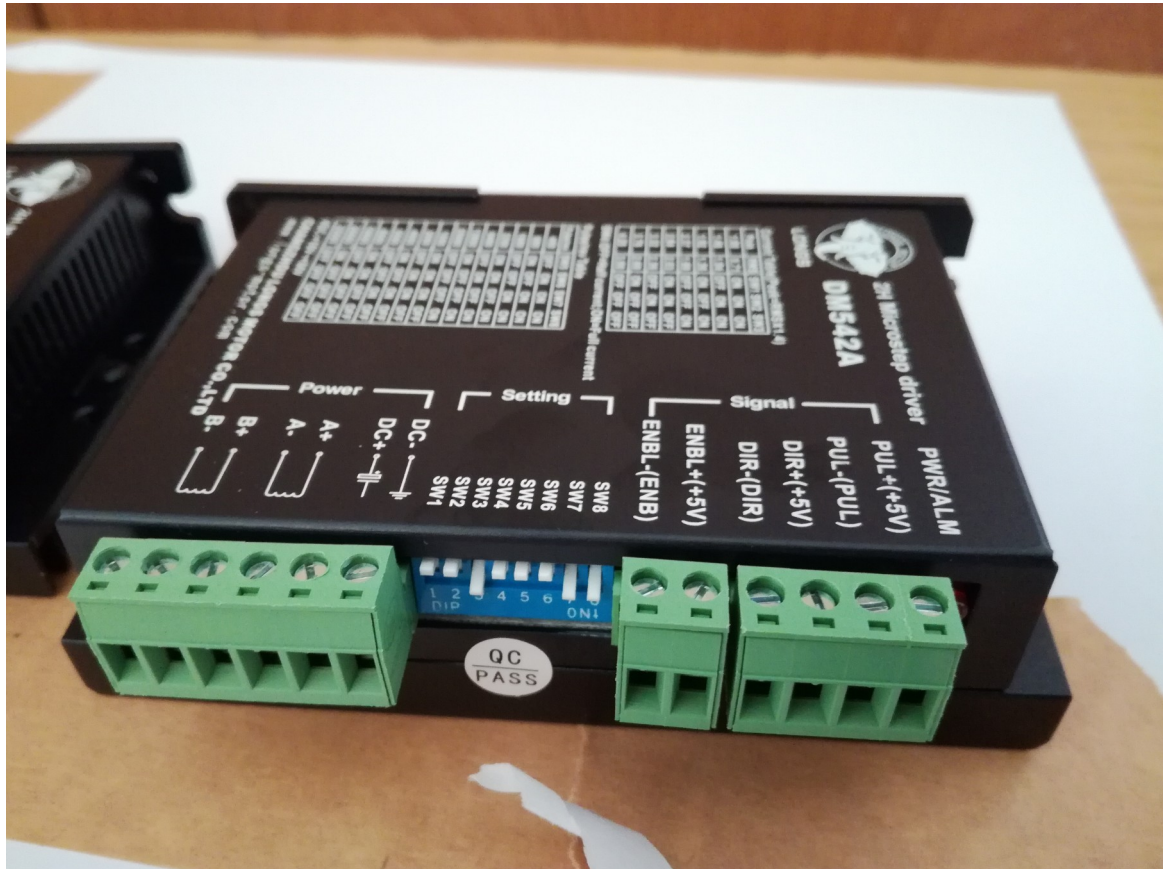

Figure 9 Pin setting of the stepper motor drivers for 1600 pulse/rev leading to a microstepping factor of 8.
3.3. Set the pins (SW1-SW8) of the stepper motor drivers to the desired configuration. These pins adjust the current output and step/revolution. Our configuration (1600 pulse/rev → microstepping factor 8) is displayed in Figure 9.